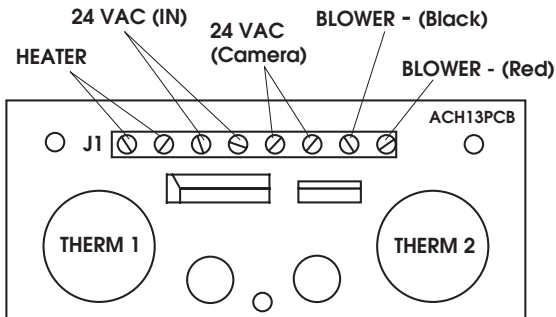

Figure 6
1. Run 24 V AC power through a cable strain relief (separate from the ethernet). Place stripped power wire ends into the power board terminals marked 24 AC I (in). (See Figure 6)